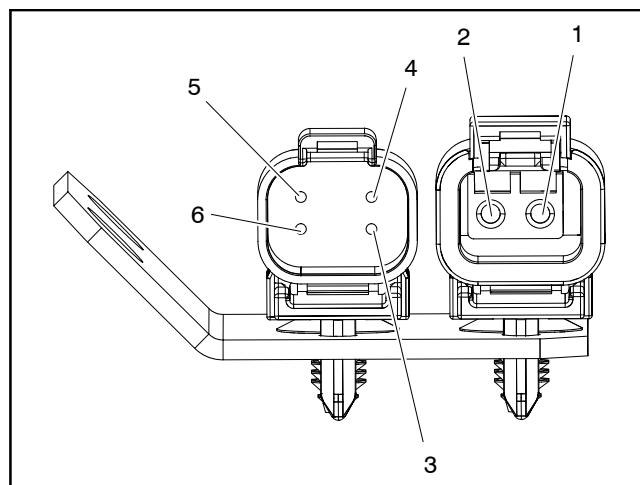

Figure 72
5. Using a multimeter, measure resistance between 48 VDC ground terminal (black wire) in the 2 wire connector and location ID terminal (blue wire) in 4 wire connector (Fig. 72). Resistance should be approximately **18.8 K-ohms**.